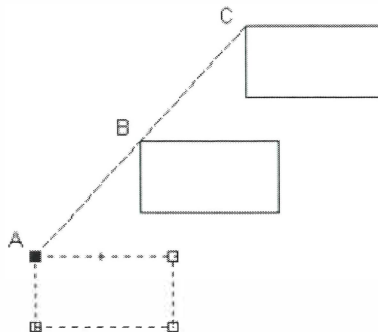

Figure 1-53
- If you hold <Ctrl> while selecting the location for additional copies, the new objects snap to the same spacing as the first copy, as shown in Figure 1-53.